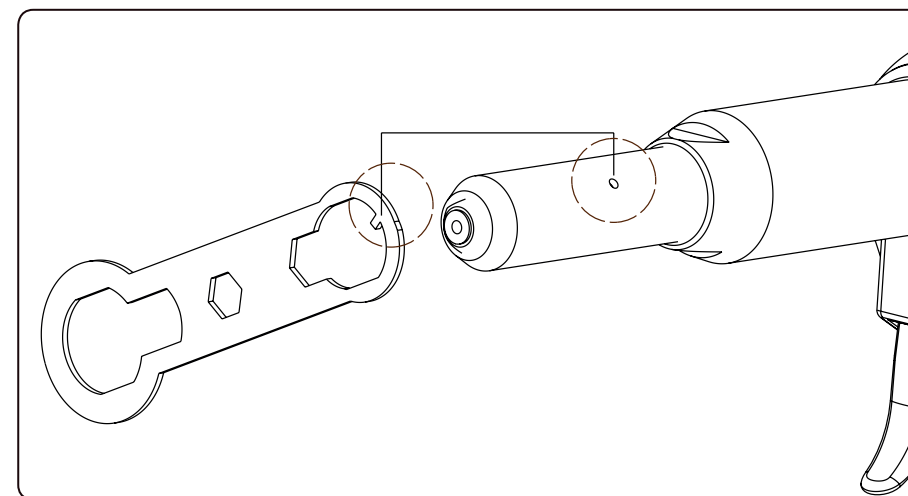

Fig. 7, location of the key stopper in the hole in the barrel.
• In the event that access to the jaws (part 3, fig.8) or another part is required, screw off the barrel using the supplied key. In order to be able to screw out the barrel, the tab on the key must be inserted into the hole on the barrel as a stopper (fig. 7). Prior to replacing the part, press and release the trigger. Ensure that the parts in the barrel of the rivet gun are sufficiently lubricated, especially after their replacement. Industrial Vaseline must be used for lubrication.